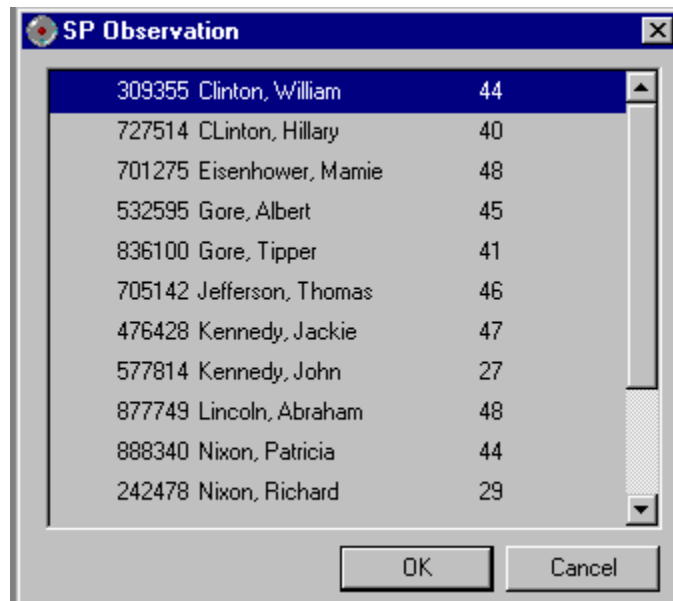

Figure 5-2. Pick list of SPs in current session
- If the exam has been closed, select 'Observation' from the 'Utilities' menu. A pick list with the names of the SP's in the current session will be displayed. This list is only displayed if 'Utilities/Observations' is selected when an exam is not open. See Figure 5-2.